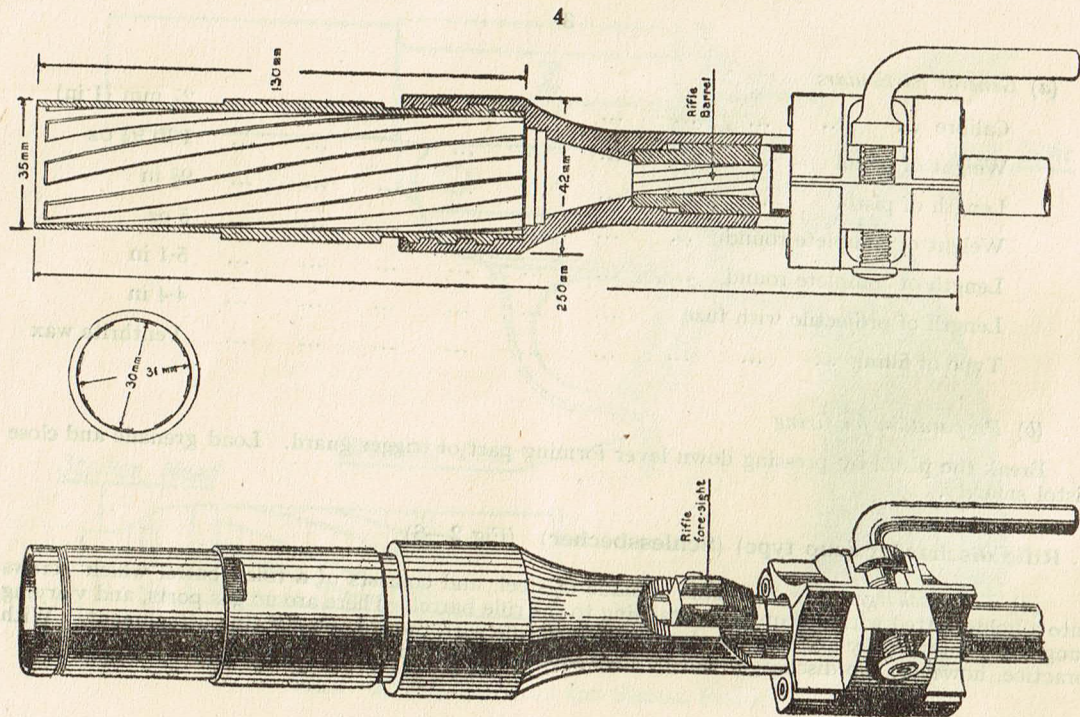

FIG 2—RIFLE DISCHARGER (CUP TYPE)
3. Rifle discharger (cup type) (Schießebecher) (Fig 2—6)
(a) The discharger (Fig 2).—This is made of steel, and consists of a rifled barrel which screws into a holder fitted with a clamp for attaching to the rifle barrel. There are no gas ports, and varying ranges are obtained by altering the elevation of the rifle with the aid of a sighting attachment. With practice, however, the discharger can be used effectively without the sight.